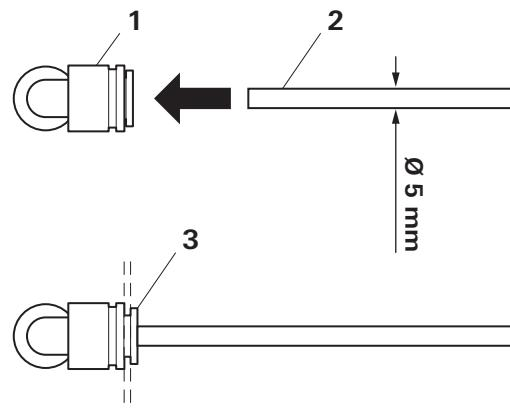

Fig. 45
- Fasten the fuel line to the tank fitting and cut to length (Fig. 45).